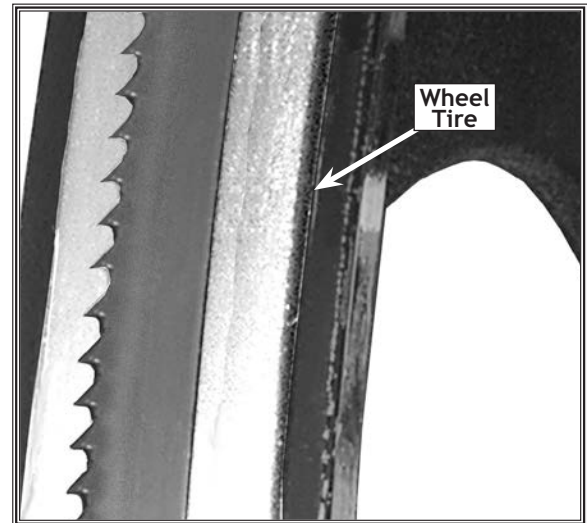

Figure 36. Blade centered on wheel tire.
5. Repeat **Steps 4** and **5** until the blade tracks slightly to the front of the center of the rubber tire (see **Figure 36**).